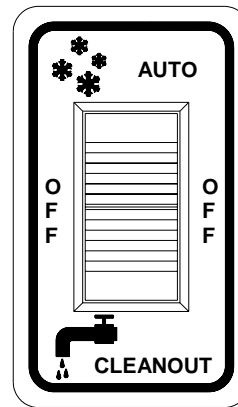
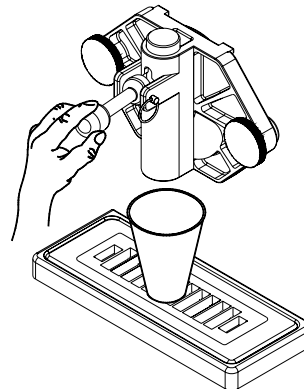

Fig. 9
Fig. 10
1. Set the control switch (Fig. 9) to the “**CLEANOUT**” position and dispense all product from the freezing cylinder by pulling downward on the spigot handle (Fig. 10) to empty the machine.
2. Set the control switch (Fig. 9) to the “**OFF**” (center) position. Close the spigot handle (Fig. 10) before proceeding to cleaning.